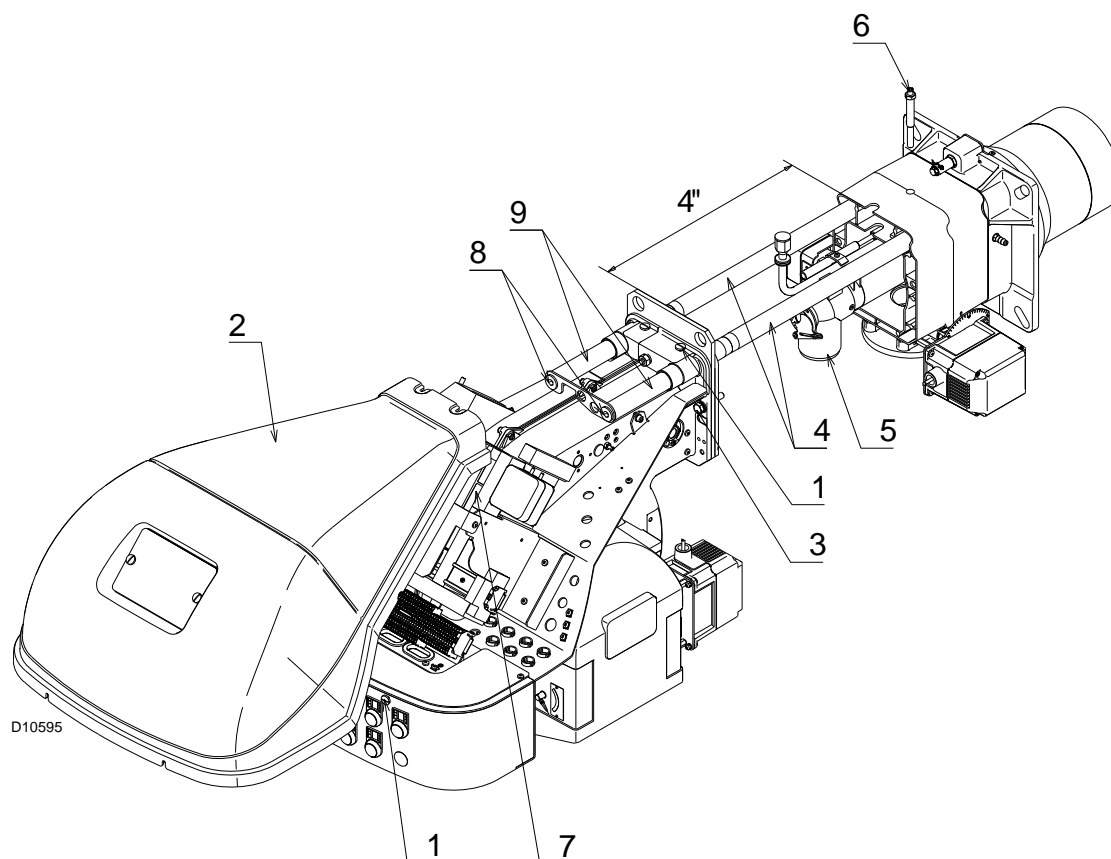

Fig. 41
Make sure that the gas outlet holes for the start-up, on the combustion head distributor, are free of dirt or rust deposits. In case of doubt, disassemble the inner part (Fig. 41, page 32).
- loosen the 4 screws 1) (Fig. 41) and remove the cover 2);